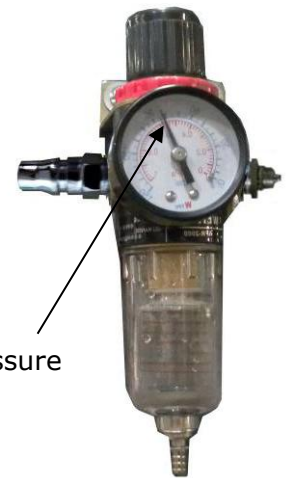

Fig. 26
4. Connect the air source (air pressure $5\text{kg/cm}^2\text{-}8\text{kg/cm}^2$), Adjust the air pressure to 0.8MPa (See Fig. 26).